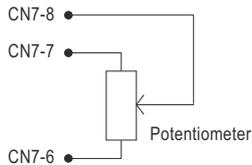

Figure 1
- Applying an additional 100K Ω potentiometer across CN7-6 and CN7-7 (referring to Figure 1) will enable the adjustment in between -5% and +5% (EX: -3%, +2.5%, and etc.)